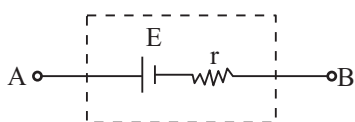

Fig. 23.1
- (ii) Schematically, internal resistance r of a cell is shown as part of a cell of *emf* ϵ whose terminals A and B only are available to us for making connections (Fig 23.1).